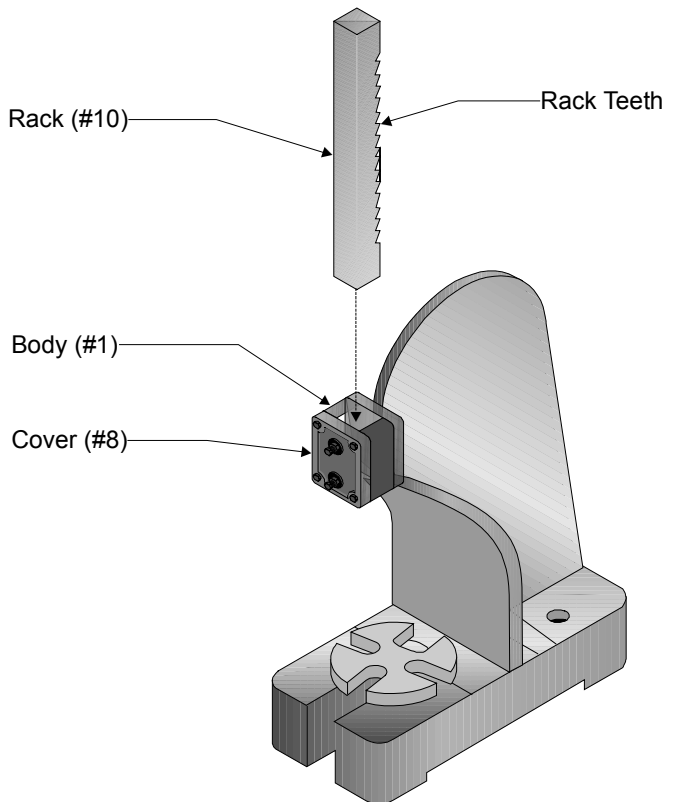

Figure 3 -- Installing the Rack
2. Insert the RACK (#10) down through the top of the BODY as shown in Figure 3. Make sure the teeth of the RACK are towards the rear of the BODY as shown in the Figure.